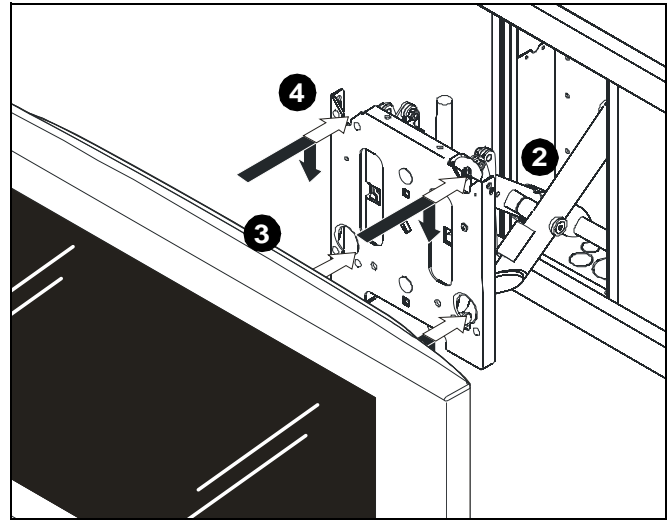
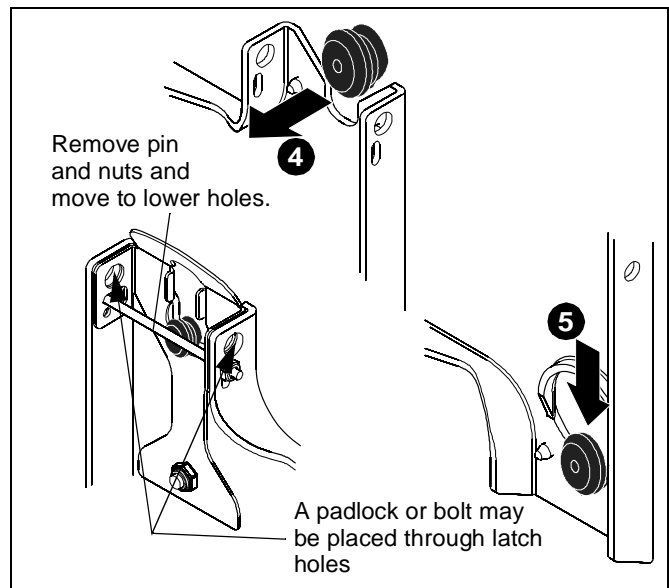

Figure 10
Figure 11
2. Move mount faceplate to extended position by grasping faceplate and pulling outward away from wall. (See Figure 10)
3. While supporting both sides of display, align four mounting buttons on display or interface bracket with four mounting holes in faceplate. (See Figure 10)
4. Lower display into place listening for audible "click" to ensure recessed area of mounting buttons are properly seated in lower area of mounting holes and "click lock" mechanism has engaged. (See Figure 10) and (See Figure 11)
**NOTE:** Holes are provided in the faceplate for use with a padlock or similar locking device, if desired. In addition, the pin and nut may be removed from the upper holes and moved to the lower holes for use as a more permanent locking device. (See Figure 11)